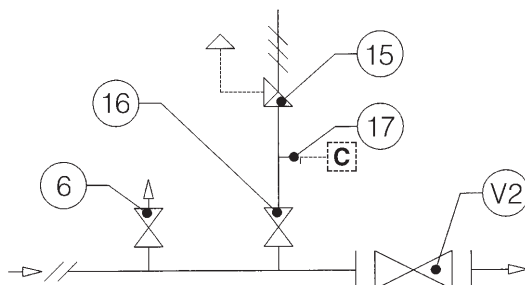

Fig. 6
3.1.2 INSTALLATION WITH ON/OFF VALVE (FIG. 6)